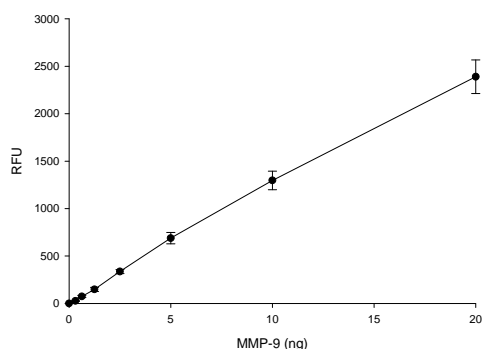

Figure 2. Sensitivity of the SensoLyte[®] Plus 520 MMP-9 assay.
- Determine the slope of the linear portion of the data plot. Obtain the reaction velocity (V) in RFU/min or RFU/sec.
- Plot data as RFU versus concentration of MMP (Figure 2).